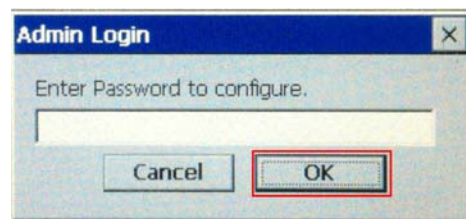

Figure 4-22: Laird Connection Manager – Admin Login
- Step 4:** The Admin Login window appears (Figure 4-22). Leave the password field blank and click **OK**. (Note: the network password will be entered later.)